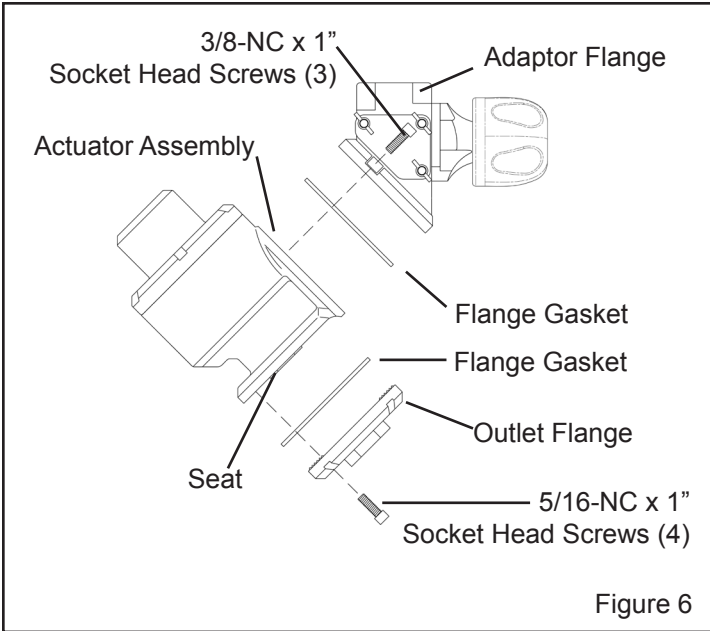

Figure 6
**4.2.4** Refer to Figure 6 and remove the screws securing the adaptor flange and the outlet flange to the actuator assembly, and then remove the actuator assembly.